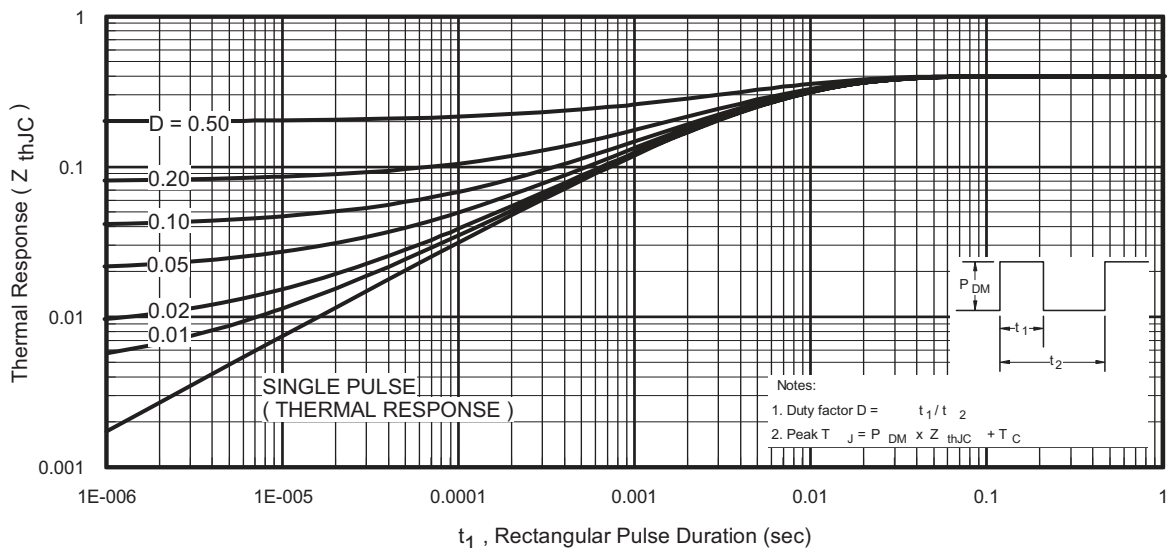

Fig. 12 - Maximum Effective Transient Thermal Impedance, Junction-to-Case
- Repetitive rating; pulse width limited by maximum junction temperature (see fig. 12).